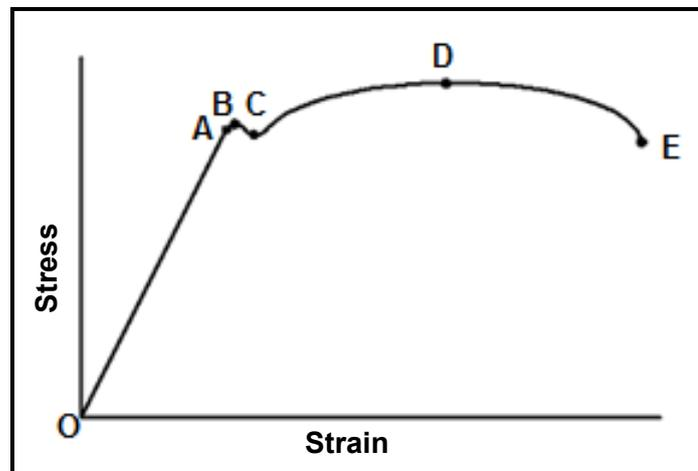

FIGURE 1.12
- 1.12 What does point D represent in the graph in FIGURE 1.12 below regarding the stress and strain?